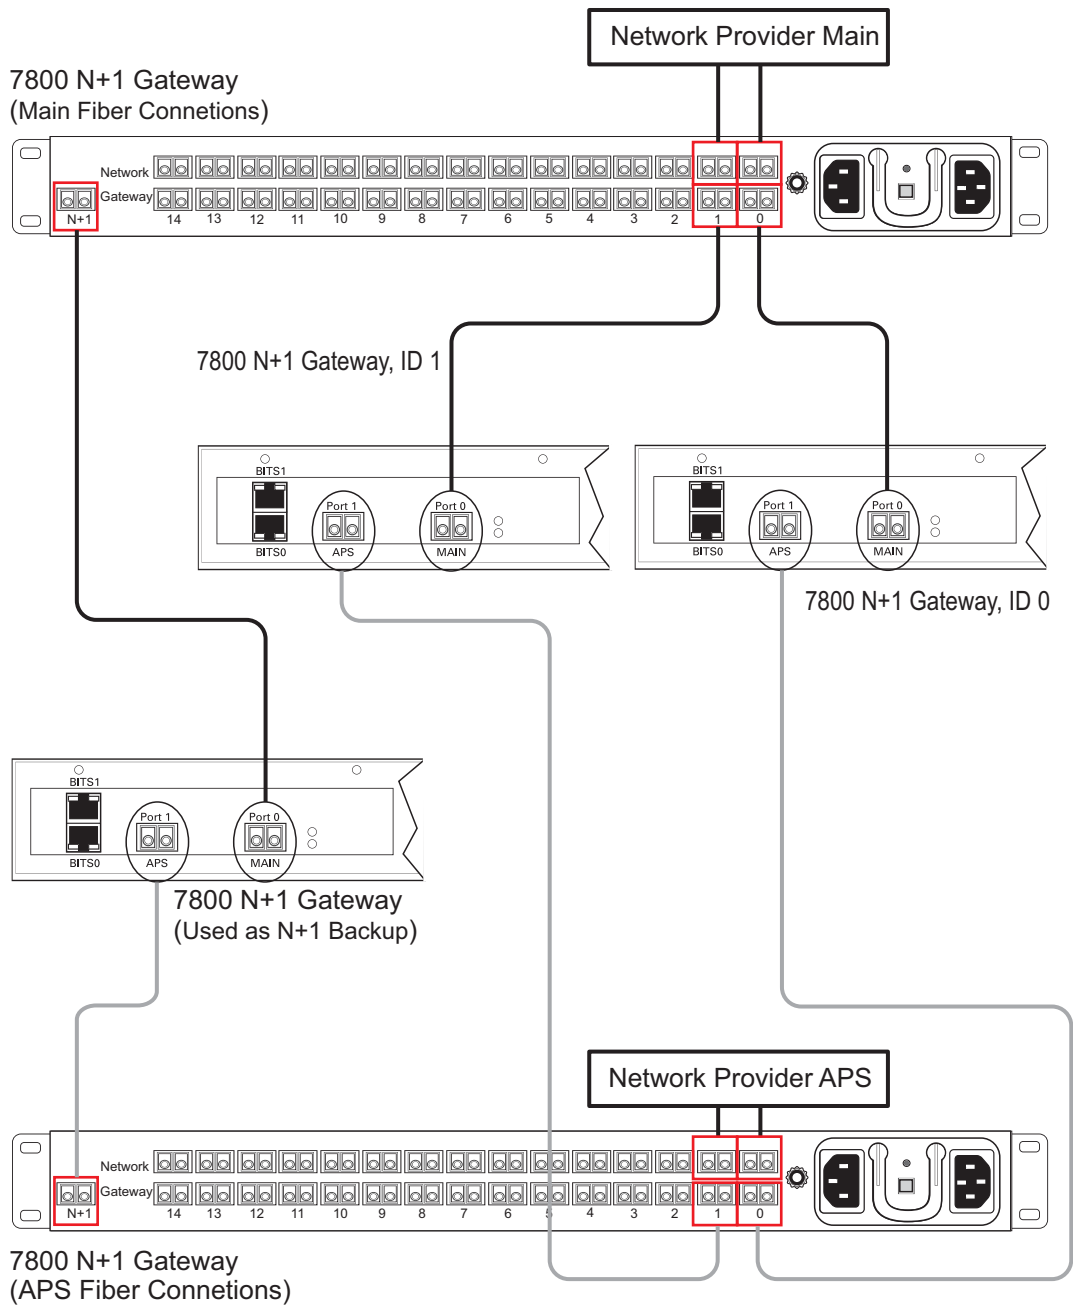

Figure 4.9 Optical Interface Connections to the 7800 N+1 Patch Panel
2. Relate the fiber optic cables from the network provider with each TMG7800-STM1 and use the same port number that is assigned to each TMG7800-STM1. See figure 4.9 on page 36